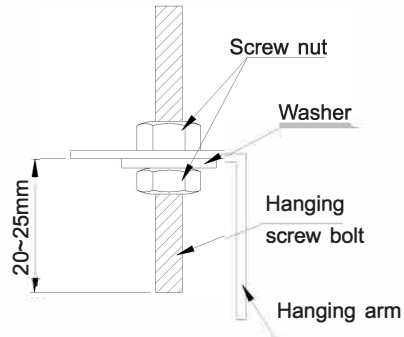

Fig 4.9
② Locate the hanging arm on the hanging screw bolt (Refer to Fig 4.9)